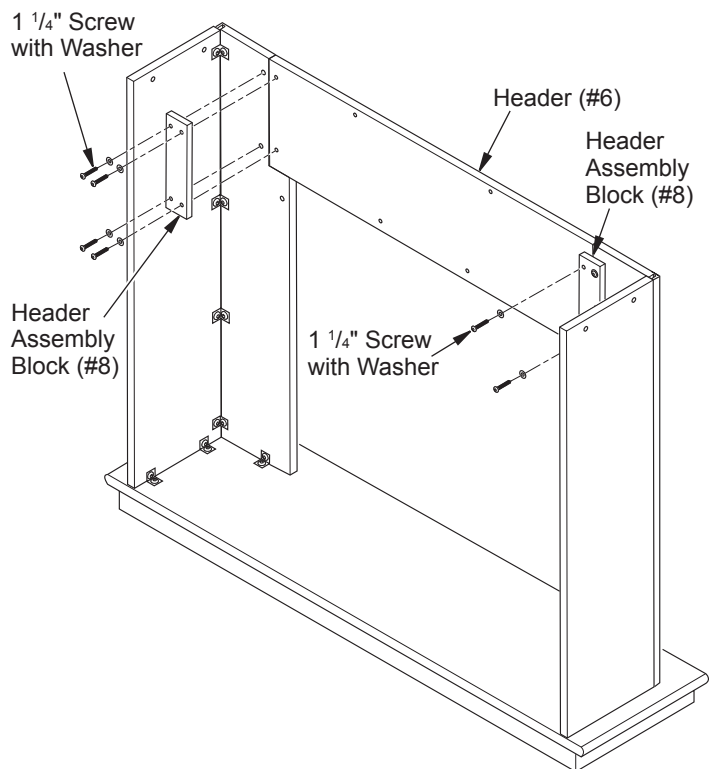

Figure 3 - Attaching Header
1. Start two 1 1/4" screws with washers through header assembly block (#8) into threaded inserts on right side of mantel. Repeat for left side (see Figure 3).
2. With arrow pointing up, place header (#6) into position on top of leg assemblies and against header assembly block (#8) (see Figure 3). Start two 1 1/4" screws with washers through header assembly blocks (#8) into threaded inserts in header. Hold header in proper alignment with leg assemblies and tighten, leaving screws slightly loose.